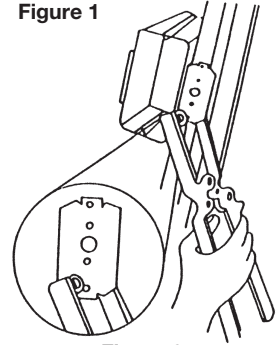

Figure 2
2. Place CT-1 tool over flange of stud and box bracket as shown in **Figure 2**. Set point of crimping tool spindle in hole provided between crimping teeth of the bracket.